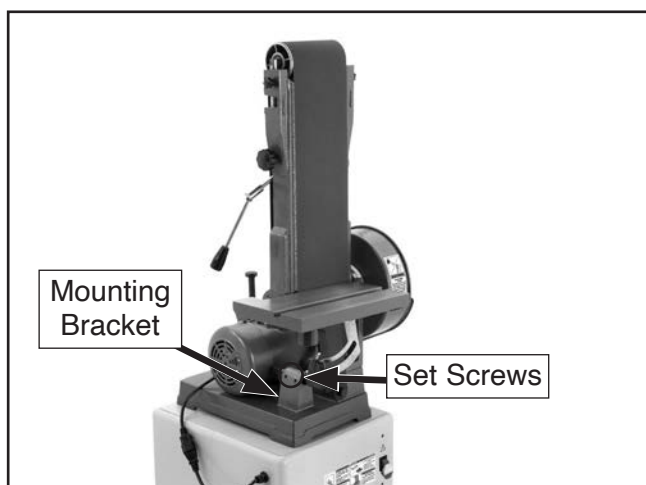

Figure 64. Work table installed for vertical sanding.
8. Loosen the set screws on the mounting bracket behind the motor, then slide the support rod and work table assembly into the bracket hole, as shown in **Figure 64**.